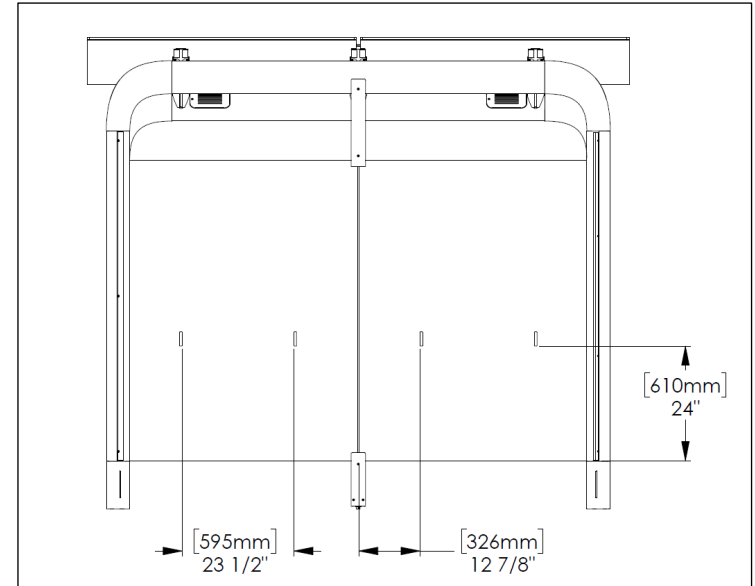

Fig. E13 – Install glass safety decals
11. Clean areas on glass panels to receive glass safety decals and apply. See Fig. E13 for recommended locations.